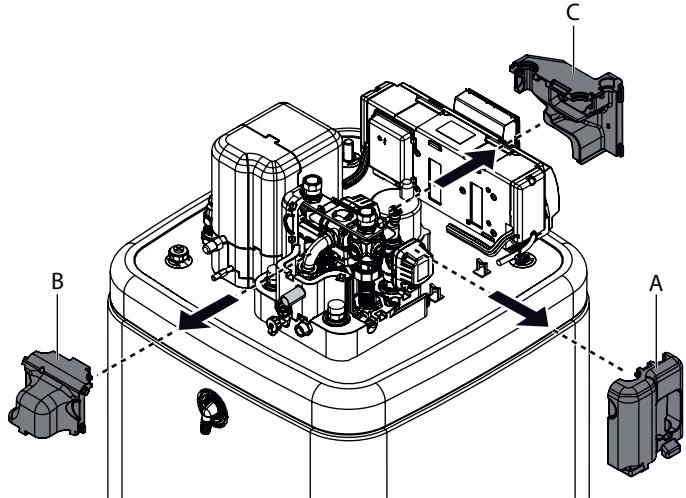

Fig. 4-8 Removing top thermal insulation
- Pull away the side insulation element (fig. 4-8, item A) horizontally.
- Pull away the rear insulation element (fig. 4-8, item B) horizontally.
- Pull away the front insulation element (fig. 4-8, item C) horizontally.